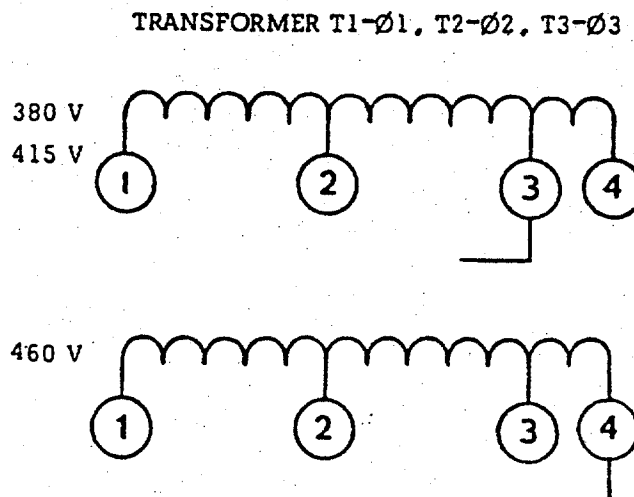

Figure 2-2 Auxiliary Chassis Input Connections 20-250, 40-125, 150-35, 300-18
- a. The auxiliary chassis is set up for 460 volt input as supplied, and must be slightly modified for the lower voltage. Relocate the wire at terminal 4 of each of the three transformer primaries to terminal 3 (see Figure 2-2).